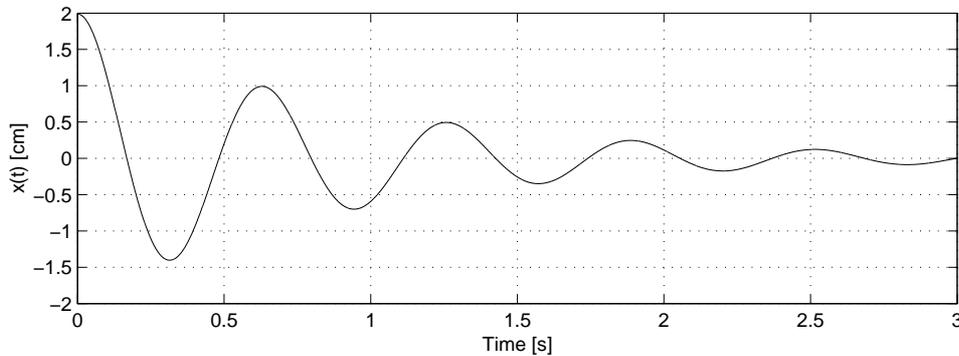

Figure 2: Second order system response
2. Suppose that we've measured the system response shown in Figure 2.